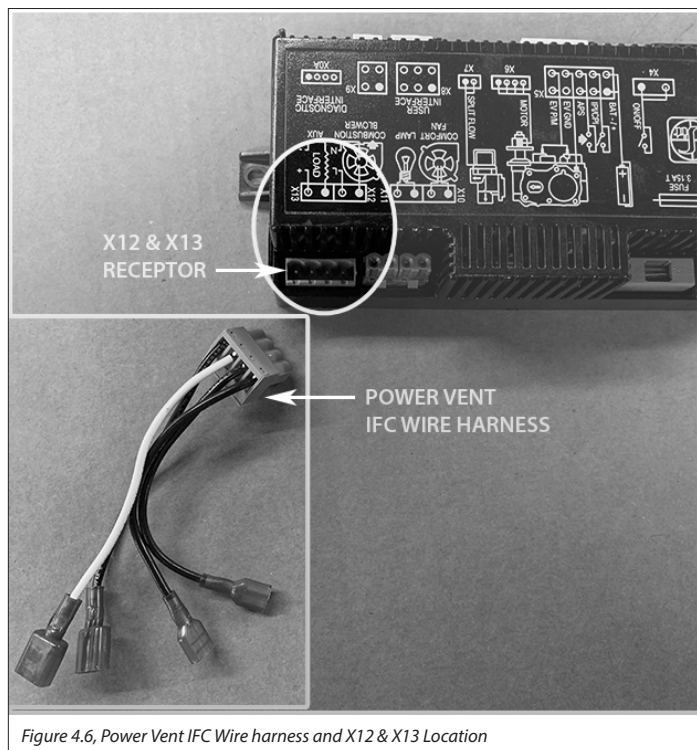

Figure 4.6, Power Vent IFC Wire harness and X12 & X13 Location
3. Locate the Power Vent IFC wire harness in the components packet. Plug the connector into X12 and X13 plug receptor. See Figure 4.6.